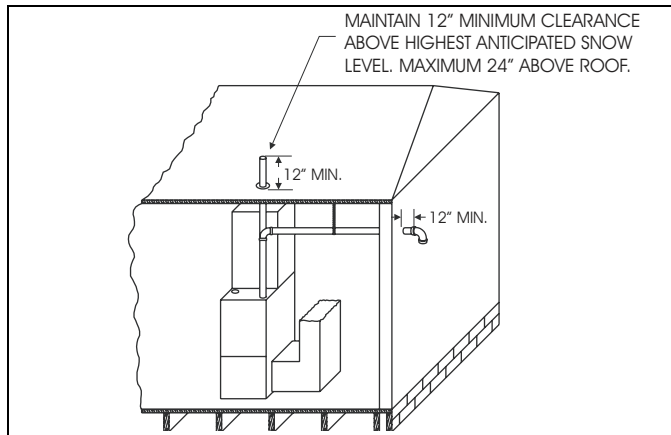
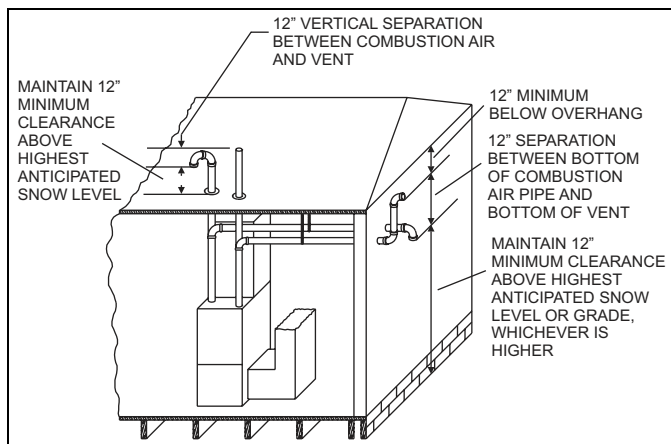

FIGURE 10: Termination Configuration - 1 Pipe
FIGURE 11: Termination Configuration - 2 Pipe
7. Sealed combustion air systems must be installed so the vent and the combustion air pipes terminate in the same atmospheric zone. Refer to Figures 11 or 12.
6. Sealed combustion air systems must be installed so the vent and the combustion air pipes terminate in the same atmospheric zone. Refer to Figures 11 or 12.
The combustion air side of the single pipe configuration shown in Figure 10 is referred to in these instructions as ambient combustion air supply. Follow the instructions for ambient combustion air installations, paying particular attention to the section on air source from inside the building. The vent for a single pipe system must be installed as specified in the venting section of these instructions with the vent terminating as shown in Figures 11 or 12. Each furnace must have a separate vent pipe. Under NO circumstances can the two vent pipe be tied together.
The combustion airside of the two-pipe configuration shown in Figures 11 or 12 can be installed so the combustion air pipe terminates as described in outdoor combustion air or ventilated combustion air sections in these instructions. Follow the instructions for outdoor combustion air or ventilated combustion air and the instructions for installing the vent system with the vent terminating as shown in Figures 13 or 14. The two-pipe system must have a separate combustion air pipe and a separate vent pipe for each furnace. Under NO circumstances can the two combustion air or vent pipes be tied together. The combustion air and vent pipes must terminate in the same atmospheric zone.
2. **AMBIENT COMBUSTION AIR:** Combustion air is supplied from the area surrounding the furnace through vents or knockouts in the furnace casing. The combustion air and the vent pipes are not terminated in the same atmospheric zone. Refer to Figure 10 for vent terminations. Refer to "AIR SOURCE FROM INSIDE THE BUILDING" and "VENT AND SUPPLY AIR SAFETY CHECK" for proper installation. Refer to Figure 16.